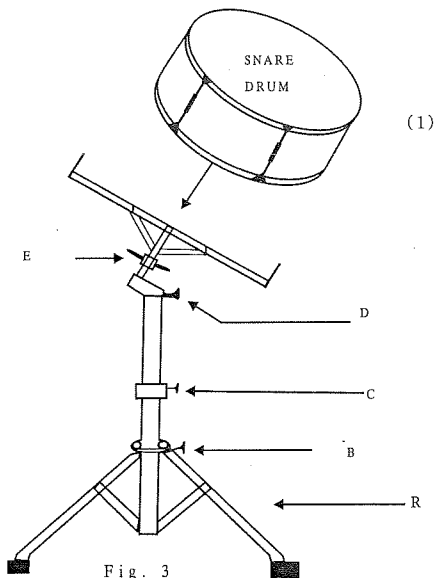

Fig. 3
Figure 3. Open three-legged stand base (A) until legs are fully extended. Tighten wing nut (B) at the top of base tube, loosen wing nut (C) and insert rod of snare holder. Tighten wing nut (D) on rod of snare holder. To tilt arms of snare holder to desired position, adjust wing nut (E) on rod of snare holder. Lay snare drum (snare side down) into snare stand arms. Tighten basket adjusting nut (F) until arms securely hold snare drum.